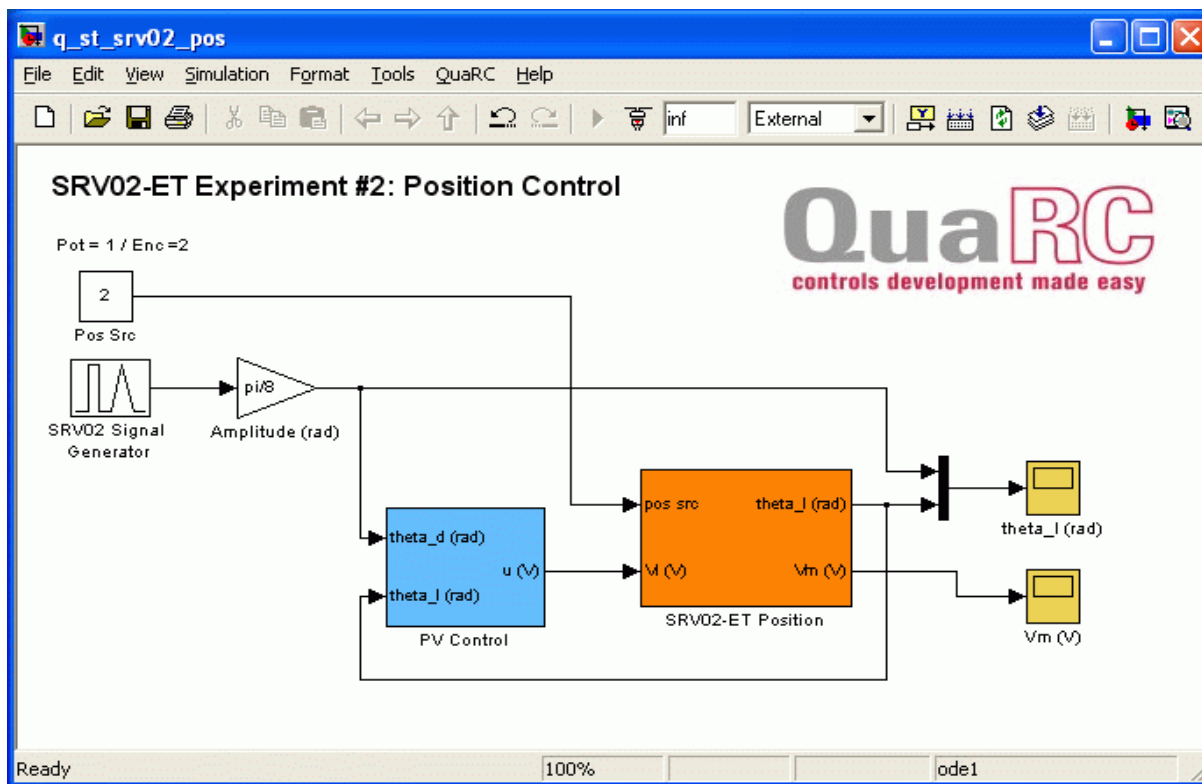

Figure 8: Simulink model used with QUARC to run the PV and PIV position controllers on the SRV02.
The *q\_srv02\_pos* Simulink diagram shown in Figure 8 is used to perform the position control exercises in this laboratory. The *SRV02-ET* subsystem contains QUARC blocks that interface with the DC motor and sensors of the SRV02 system, as discussed in Reference [7]. The *PV Control* subsystem implements the PV control detailed in Section 4.2.4.2, except a high-pass filter is used to obtain the velocity signal (as opposed to taking the direct derivative).
3. Double-click on the `q_st_srv02_pos.mdl` file to open the Simulink diagram shown in Figure 8.
5. **Configure Sensor:** The position of the load shaft can be measured using various sensors. Set the *Pos Src* Source block in `q_srv02_pos`, as shown in Figure 8, as follows: